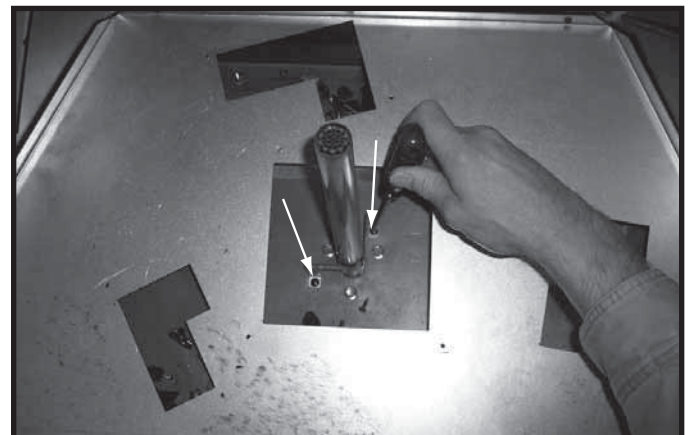

Figure 14.21 Remove Center Burner Tube
- Remove center burner tube by removing two screws. See Figure 14.21.